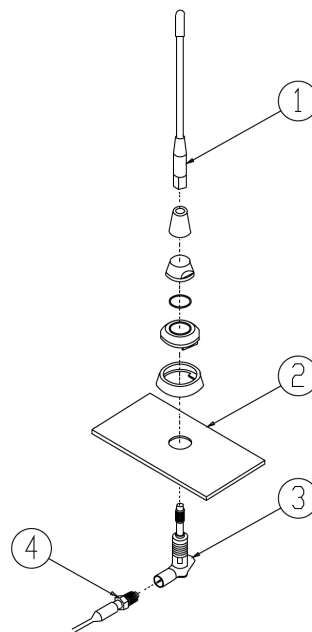

Figure 2.16: Standard External Antenna
3. Assemble the antenna according to Figure 2.16: Standard External Antenna.